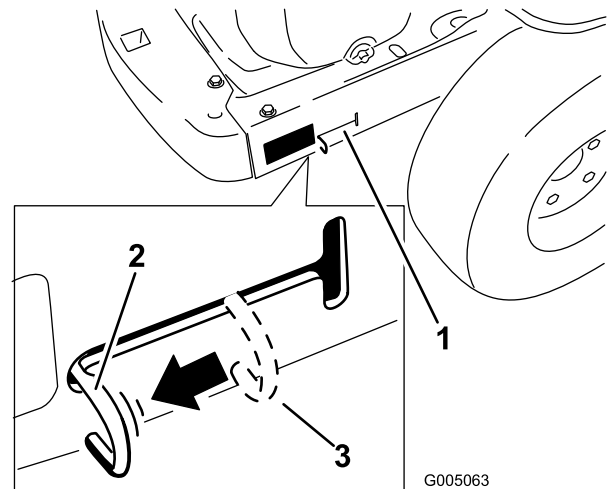

Figure 17
4. Move the bypass levers rearward and then down to lock them in place as shown in Figure 17 to disengage the wheel motors. Repeat this on each side of the machine.
Move the bypass levers upward and push them forward, to the **middle** of the horizontal slot (Figure 17) to engage the wheel motors.